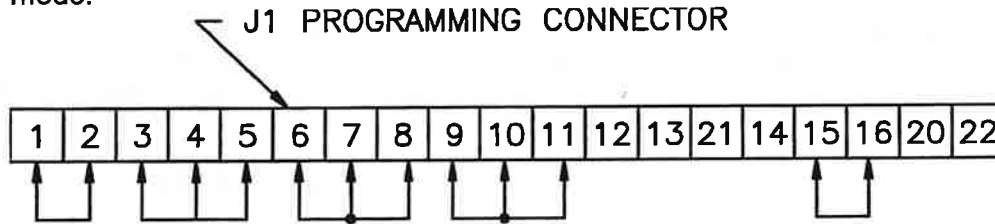

FIGURE 3.4: Normal Operation Mode
In the Normal Operation mode, the power supply is controlled by the front panel potentiometers. The supply is configured for constant voltage, constant current and local sensing. When shipped from the factory, the supply is configured for this mode. Figure 3.4 illustrates the configuration of J1 for the Normal Operating mode.
- 1) The J1 Programming Connector should be configured for the Normal Operation mode before connecting the two power supplies in parallel. Refer to Figure 3.4 for the Normal Operation mode configuration.